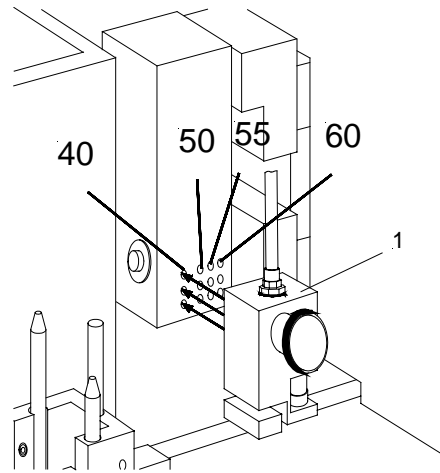

Fig. 15a
1. Loosen the screw with the red ring and remove the vacuum cup holder (fig. 15a.1).
Four vertical rows of holes become visible. To rule out a wrong positioning of the vacuum cup holder, the unused three threaded holes are closed by set screws. Unscrew the set screw of the desired fastening position (fig. 15a) by means of a hex head wrench (size 2) and insert it into the previously used threaded hole.